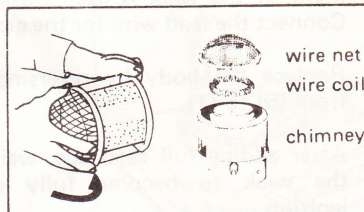

Fig. 28
- (1) Unfasten the wire net by turning left. (Fig. 28)
- (2) Take out the used wire coil and replace with a new one.
- (3) Replace the wire net by turning right.